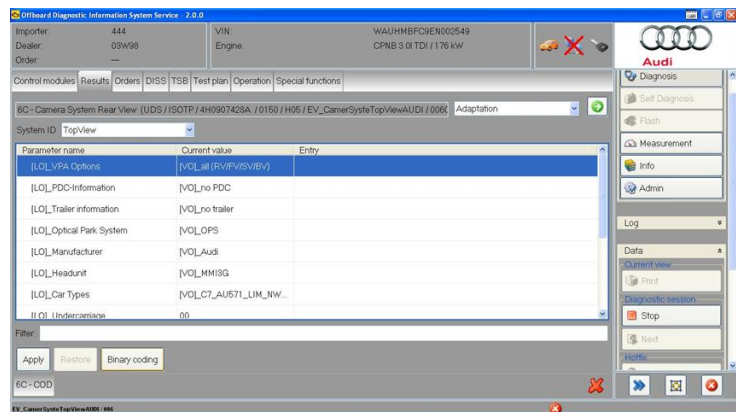

Figure 4. Binary Coding button at bottom of screen.
- c. Click the *Binary Coding* button at the bottom of the screen (Figure 4).